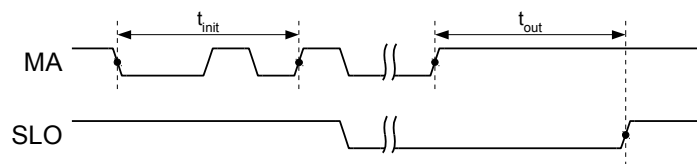

Figure 6: SSI slave timeout
| Z06 | tout(jadapt) | Adaptive Slave Timeout at SLO | BISS_NTOA = 0 refer to timing Figure 6 t_{init} measured as first 1.5 · T(MA) each frame | 0.075 | $t_{init} + 0.2$ | 24 | µs |
| Z07 | tout(jfixed) | Fixed Slave Timeout at SLO | BISS_NTOA = 1 refer to timing Figure 6 | 16 | 20 | 24 | µs |